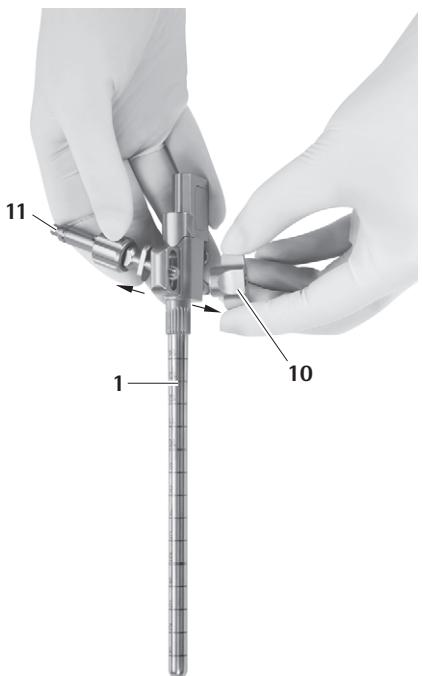

Fig. 13
- ▶ Remove holding arm adapter 11, see Fig. 13.